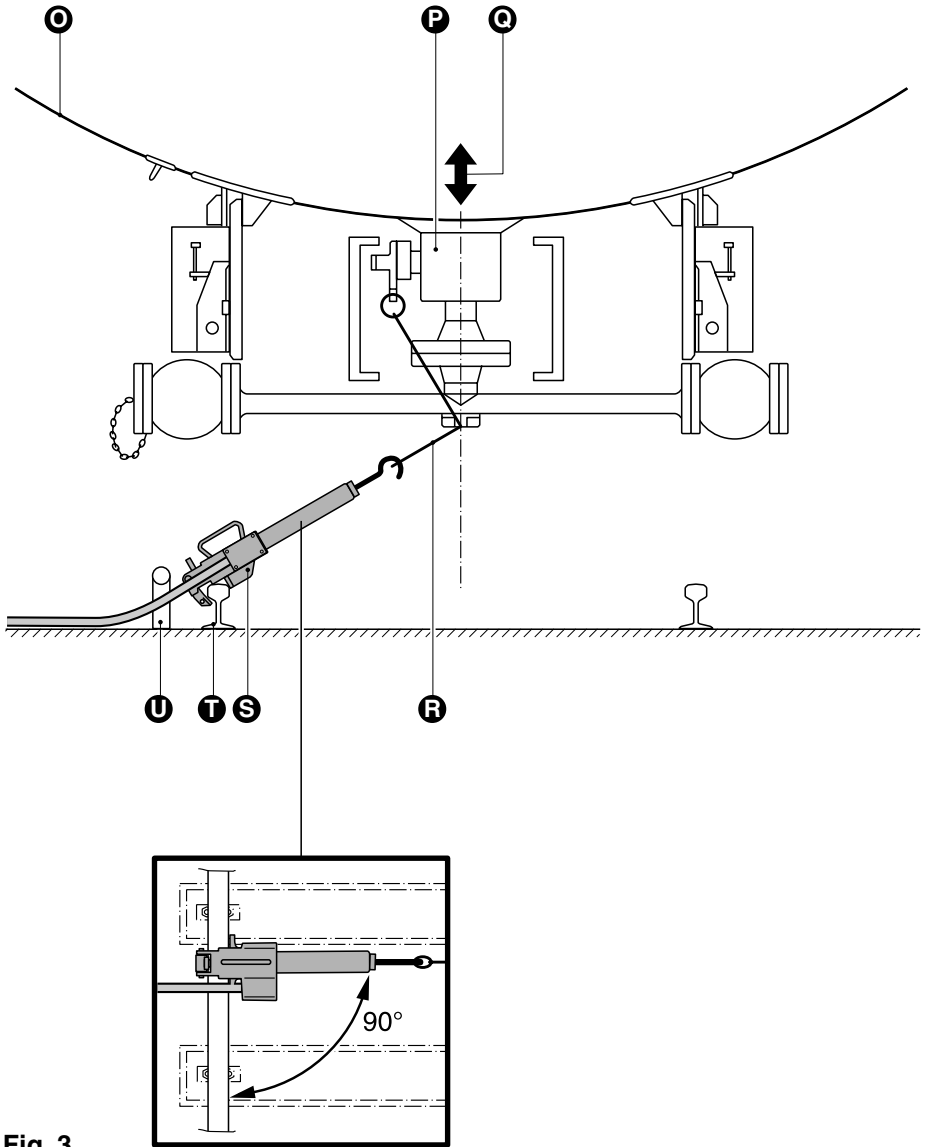

Fig. 3
During the loading and unloading process, the rail hook VZ 10 is stretched between the cable and the rail (see Fig. 3) and keeps the bottom valves open. The compressed air supply is not used to open the bottom valves – it only serves the purpose of applying a compressive force to the compression spring **G**. The spring **F** for compensating height variations prevents the rail hook from being torn off the rail during emptying of the tank car. The proximity switch **K** triggers the emergency shut-down system if the rail hook comes off the rail because of unintentional movement of the tank car.
**U**. Fig. 3